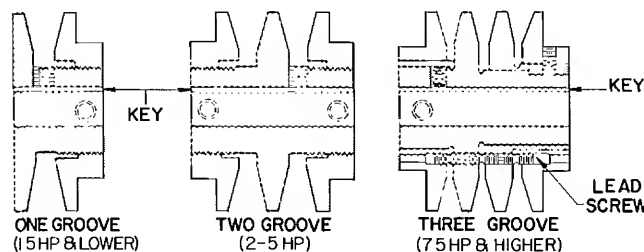

Fig. 2 — Fan Motor Sheaves
2. Loosen hub allen setscrew. Refer to Fig. 2.
2. Loosen movable flange allen setscrew(s). Refer to Fig. 2.
2. Loosen movable flange allen setscrews. Refer to Fig. 2.
3. Rotate lead screw, sliding flanges to desired pitch. Tighten all setscrews securely. Refer to Fig. 2.